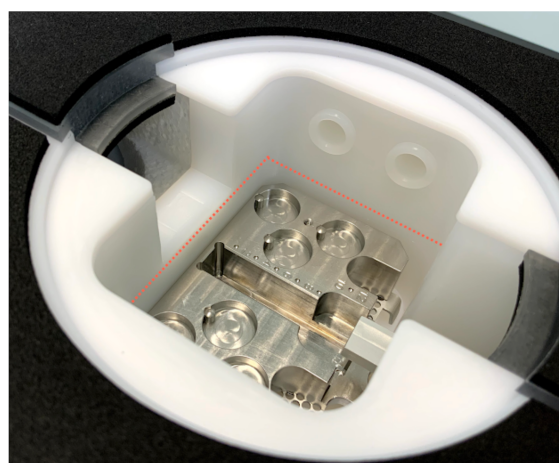

Figure 3. Red line shows the highest level to fill LN₂ in the loading station.
- 4.1.3. Remove the two chamber plugs and white center cover (fig 2). Cool the transfer station with LN₂ without overfilling (fig 3).
- 4.1.3.3. Do not fill higher than the top of the metal block (fig 3).